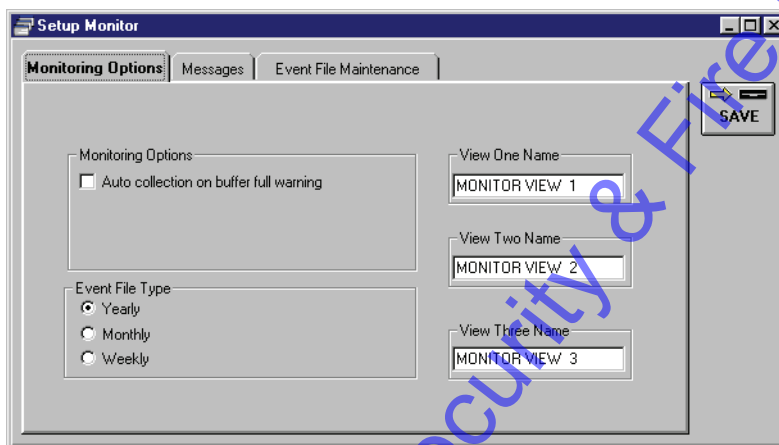

Figure 5-13: Monitoring Options Window
2. Click on the **Monitoring Options** tab. The Monitoring Options window appears (see Figure 5-13).
3. To select the event file type, click on the radio button next to your choice in the Event File Type field (see Figure 5-13). For this example verify the radio button next to the yearly option is selected.